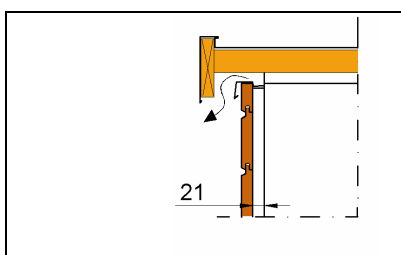

Figure 6. Upper edge detail showing ventilation gap above top board.
3. The drained and ventilated cavity should extend from the lower edge to the upper edge of the wall and be open from both edges to allow vertical circulation of air (figures 6 and 7).
The drained and ventilated cavity should be open from both lower and upper edges to allow vertical circulation of air. The recommendation for upper edge and lower edge details are presented in figures 6 and 7. Take into account the surroundings, local vegetation, ground and climate as well as the territorial requirements and conditions when designing the details.